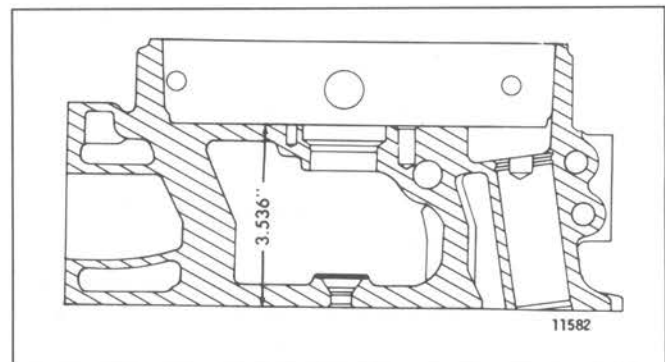

Fig. 9 – Minimum Distance Between Top and Bottom Faces of Cylinder Head
- c. If the cylinder head is to be refaced, remove the injector tubes prior to machining. Any machining of the fire deck can be done with the water nozzles in place. Do not remove more metal from the fire deck of any cylinder head below the minimum distance of 3.536" (Fig. 9). When a cylinder head has been refaced, critical dimensions such as the protrusion of valve seat inserts, exhaust valves, injector tubes and injector spray tips must be checked and corrected. The push rods must also be adjusted to prevent the exhaust valves from striking the pistons after the cylinder head is reinstalled in the engine. Also, deburr the water nozzles.